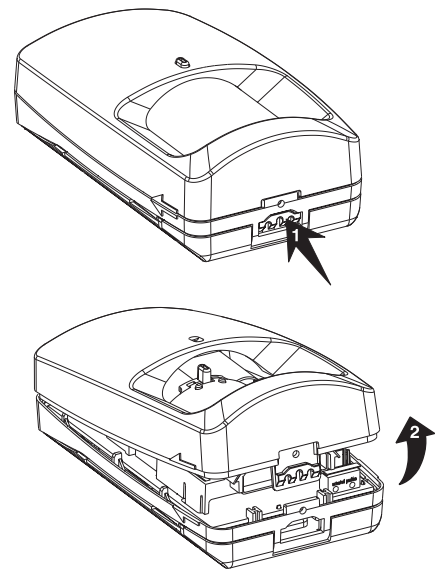

Figure 2. Remove the Front Cover
1. Remove front cover by pressing the front cover latch and lifting the cover off. See Figure 2.